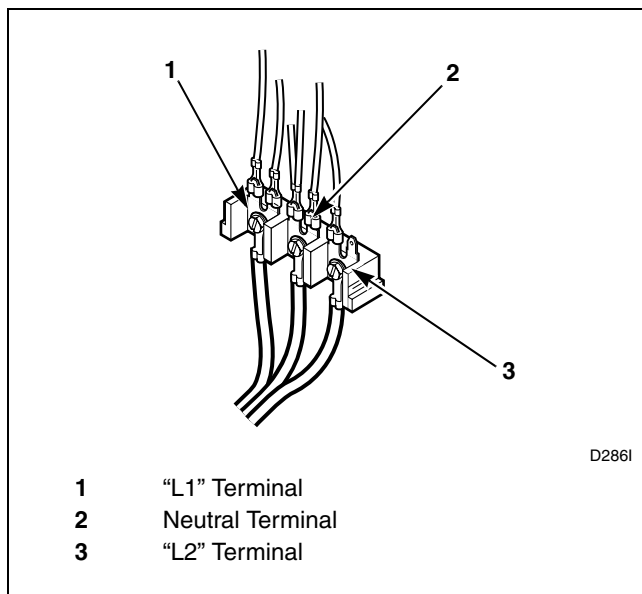

Figure 16
- Use the three screws from the accessories bag to attach the power cord wires to the terminal block. Refer to *Figure 16*.